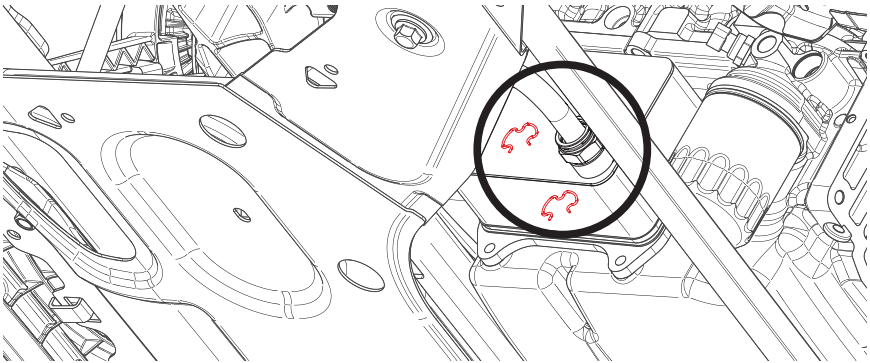

Figure 2 - Removing the Retaining Rings from the Oil Cooler Fittings
6. Use a prying tool to remove the retaining rings from the fittings on the factory oil cooler as shown in Figure 2. Save one retaining ring for later.